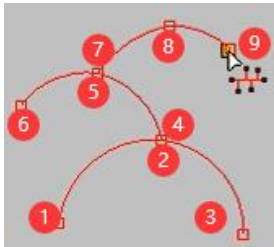

Figure 1
3. After completing an object, press the "Enter" key (for each completed object, press the "Enter" key) (as shown in Figure 1).